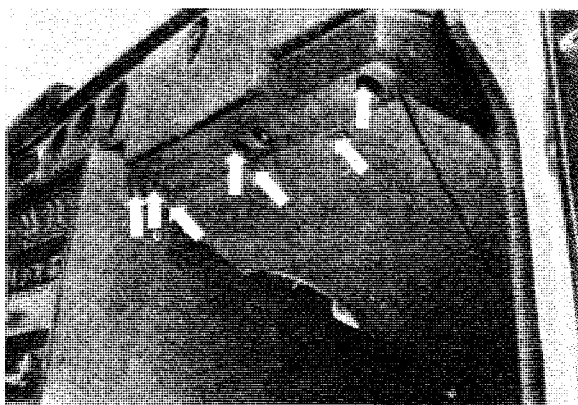

Fig. 8-72. Screws for panels and impact guard
2. Remove the right side panel, the insulation panel, the impact guard and the glove box cover (Fig. 8-72).
11. Remove the right insulation panel, impact guard, the member under the glove box and the box (Figs. 8-72 and 8-73).